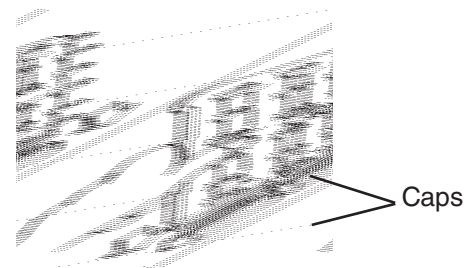

Fig. 41
- 8) Remove the two caps. See Fig. 41.